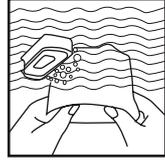

Fig. 5
5. Clean the foam filter, wash with water and mild soap (Fig. 5)